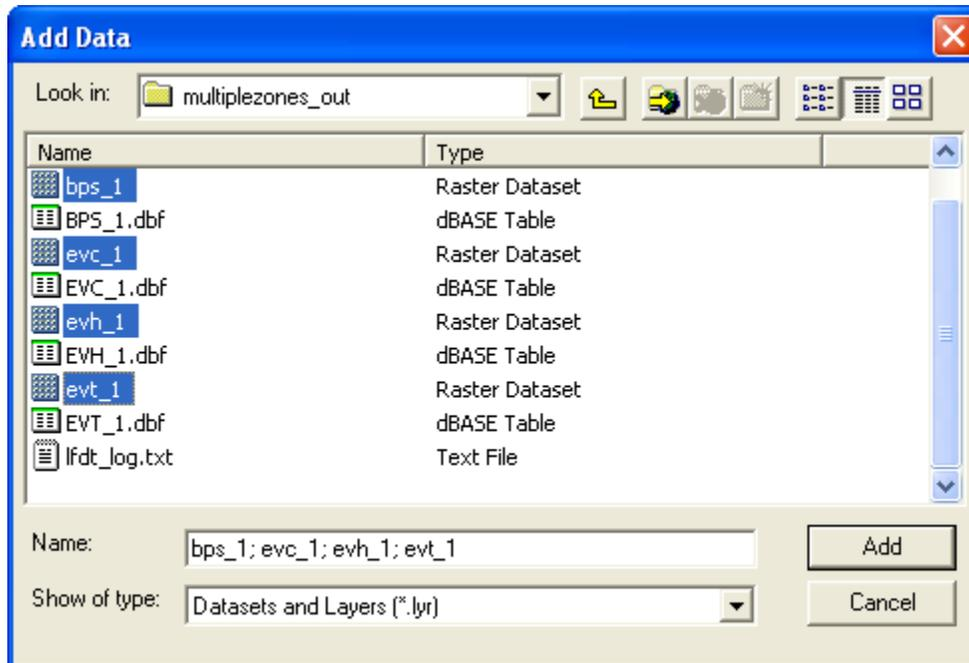

Figure 7-7. Adding required input layers.
- Add the four required input layers: BpS, EVC, EVH, and EVT (fig. 7-7).